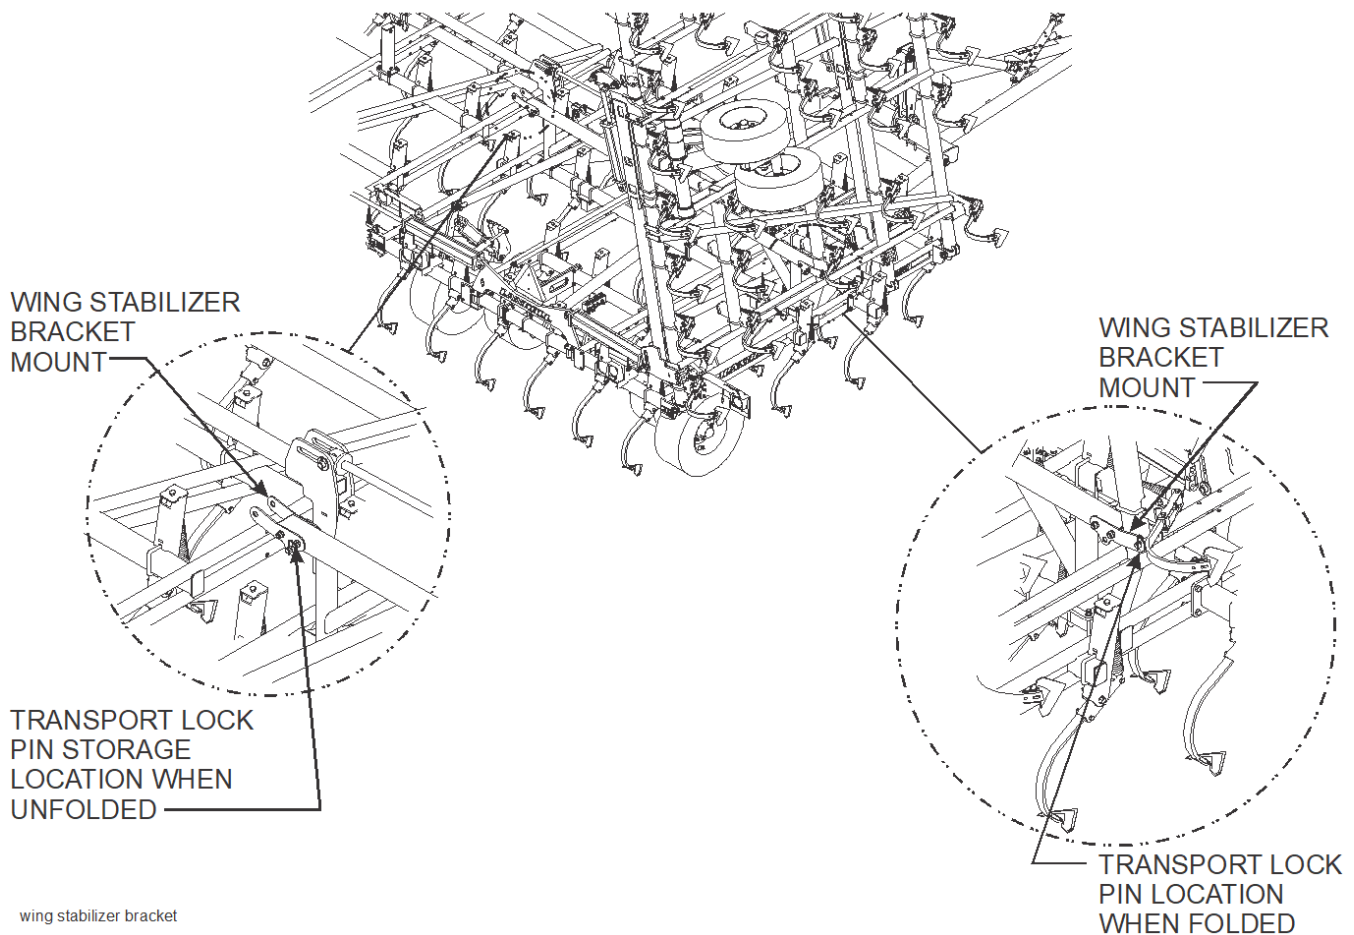

Figure 4-4: Wing Stabilizer Bracket Locks
- To fold/unfold the Field Cultivator, find a level area large enough to accommodate the machine when it is fully unfolded. The tractor should be stopped and not moving with the implement fully raised. Remove the wing transport lock pins from the mounts and install them in the storage locations *See Figure 4-4*.
- Slowly engage the tractor lever and fold/unfold the wing frames. When the wings are unfolded, continue holding the tractor lever to fully extend all fold cylinders. This will allow the wings to fully flex in the field. When the unit is fully folded, remove the wing transport lock pins from the storage location and install in the mounts provided on each side of the machine *See Figure 4-4*.
- Storage - For extended periods of non use, it is best to store the Field Cultivator inside if possible. If the unit must be stored outside for extended periods, is best to apply a light coating of oil or grease to exposed cylinder rods to prevent them from rusting. If the unit is stored in the folded position, make sure the wing transport lock pins are installed to prevent wing frames settling *See Figure 4-4*.